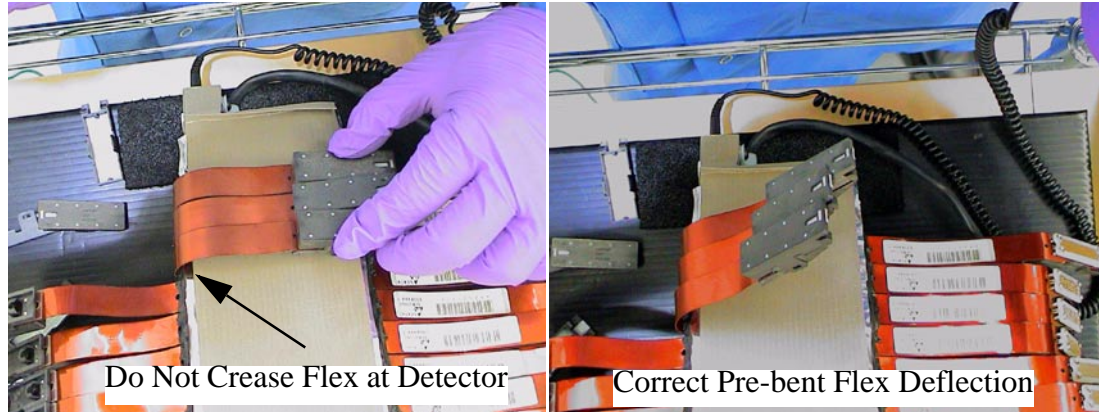

Figure 1-19 Pre-bending the 'B Flexes' for Detector Installation
- b.) Carefully pre-bend the 'B Flexes' to ease detector installation. See Figure 1-19.